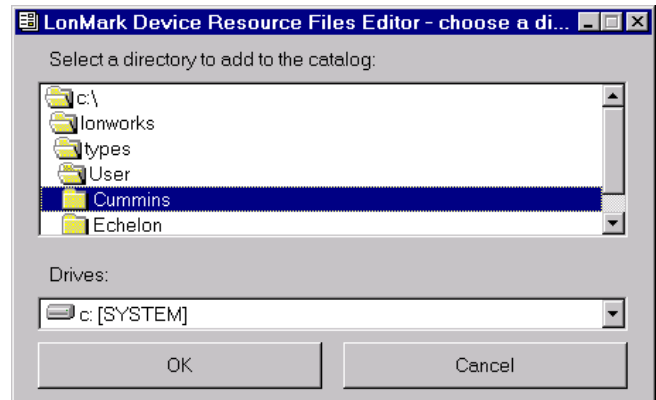

FIGURE G-4. NAVIGATING TO THE NEW DIRECTORY
- e. Navigate to the directory in which you’ve just created the new resource files. Select “OK” (see Figure G-4).